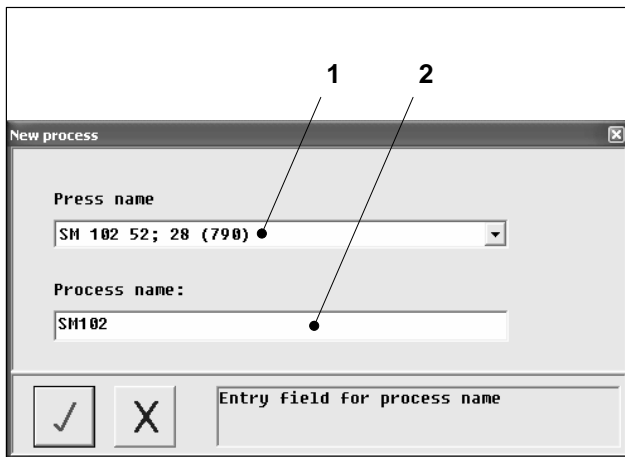

Fig. 12 The *New process* dialog window
The *New process* dialog window (Fig. 12) appears.
In the *New Process* dialog window (Fig. 12) you select a printing press and specify the name of the new process.
3. Select the required press from the *Press name* list box (Fig. 12/1).
- Lead edge of print (52)
- Tail edge of print (28)
- Plate height (790)
4. Enter a name for the new process in the *Process name* field (Fig. 12/2).